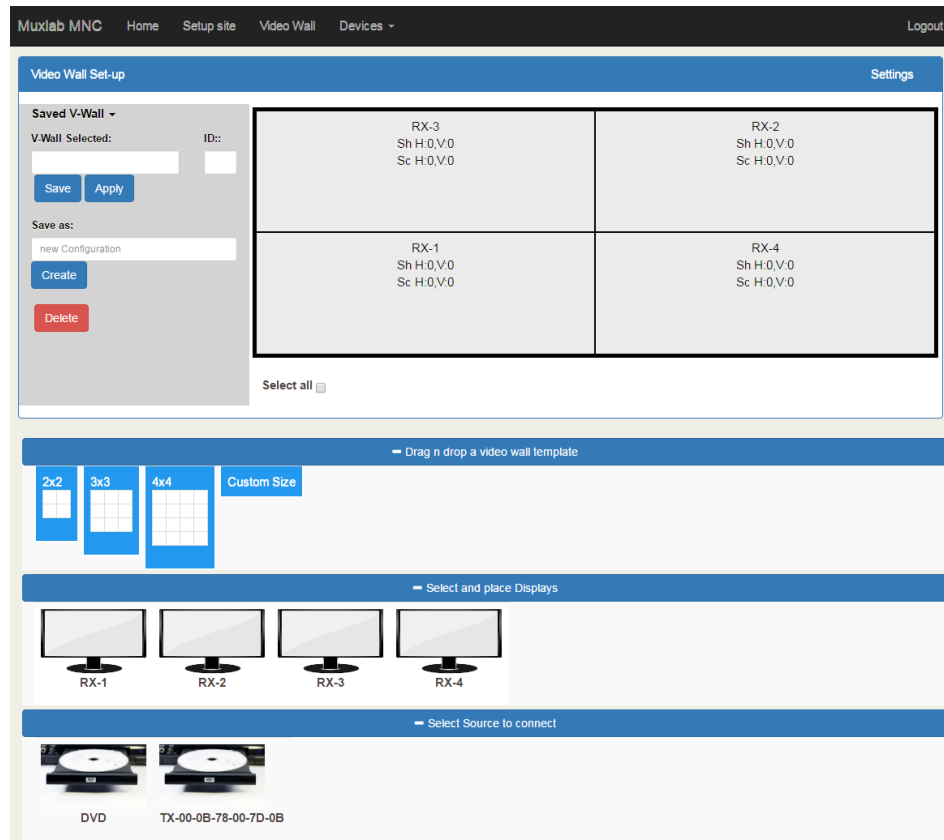

Figure 259: Video Wall Tab – Connecting Sources to Receivers
3. The user clicks on **+Video Wall Set-Up: Step #3**, which expands to provide the user with source mapping options (Figure 259).